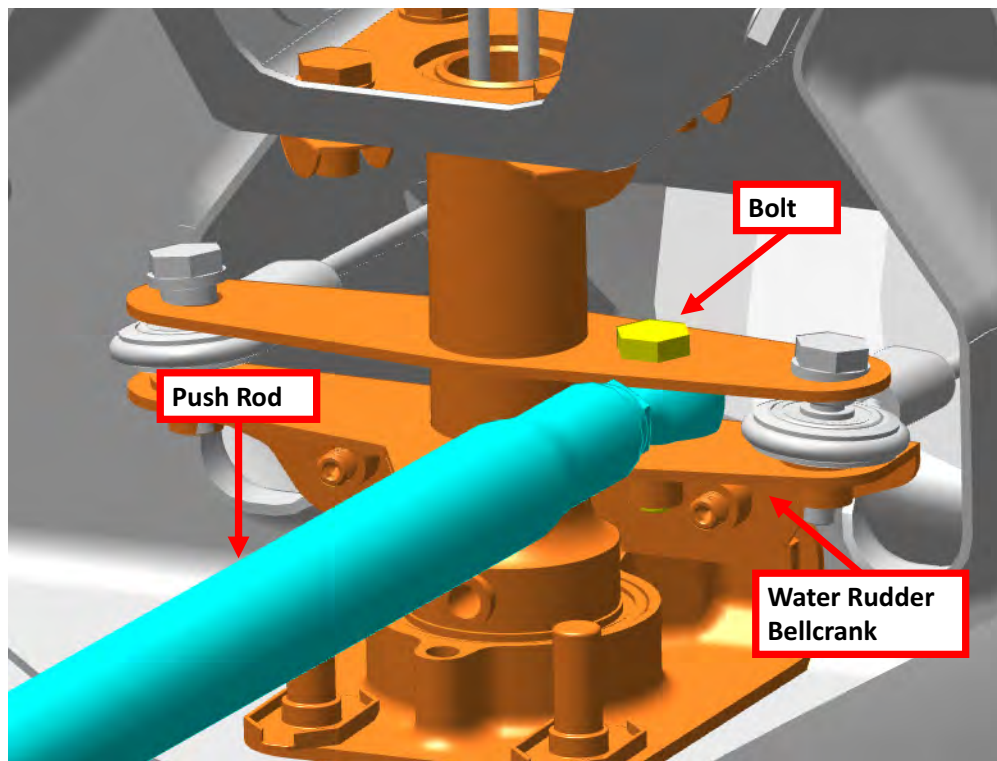

FIGURE 9-62
17. Adjust rudder push tube length to set the neutral position of the rudder to be $1^\circ \pm 1^\circ$ trailing edge right. This must be done by removing the AN3C7A bolt that secures the FWD side of the push rod and adjusting the rod end. See Figure 9-62.